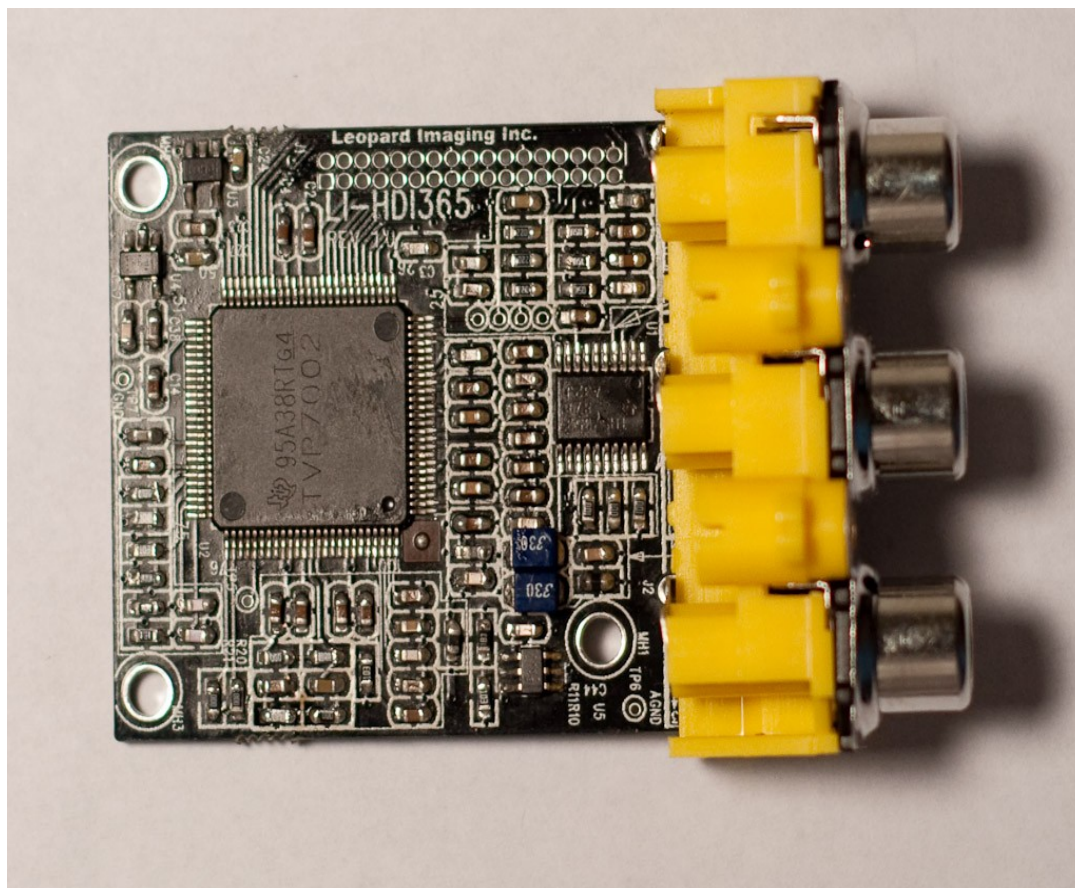

Figure 18. HD Component Video Input Board
1.2.7 HD Component Video Input Board, see Figure 18